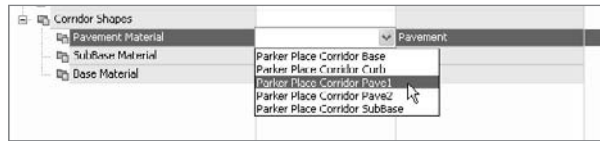

Figure 11.29
5. Click in the Object Name field next to Pavement Material (where it says “<<click here...>”), and choose Parker Place Corridor Pave1 as shown in Figure 11.29.